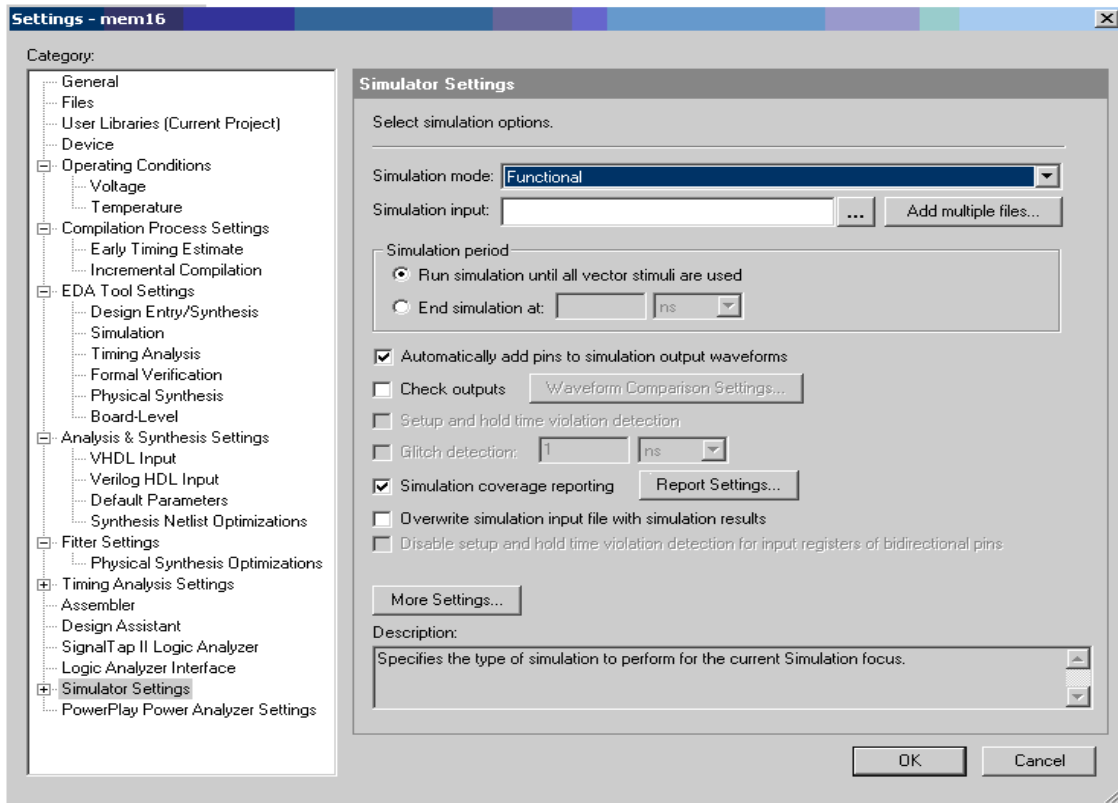

Fig. 13
11) After Compilation is done, Simulation needs to be done to verify the correctness of the design. To run the simulation go to Assignments Menu and click Settings. In the window that pops up, under the Simulator Settings, set the Simulation Mode to Functional as shown in Figure 13. If you want to use the .do file for your simulations you can specify the file under the EDA Tool Settings->Simulation as shown in Figure 14. After these settings are done go to Tools Menu and run the EDA Simulation Tool ->EDA RTL Simulation, this will pop up the Modelsim window in which the simulation can be performed. If you are using .do file to run your simulation you need to specify the working directory where your design is compiled as shown in Figure 15.